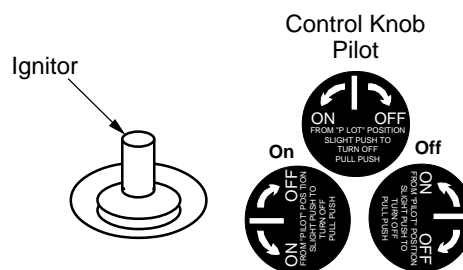

Figure 21 - Ignitor and Control Knob
5. Turn control knob counterclockwise  to the PILOT position and press in (see Figure 21, page 10). Keep control knob pressed in for five (5) seconds.